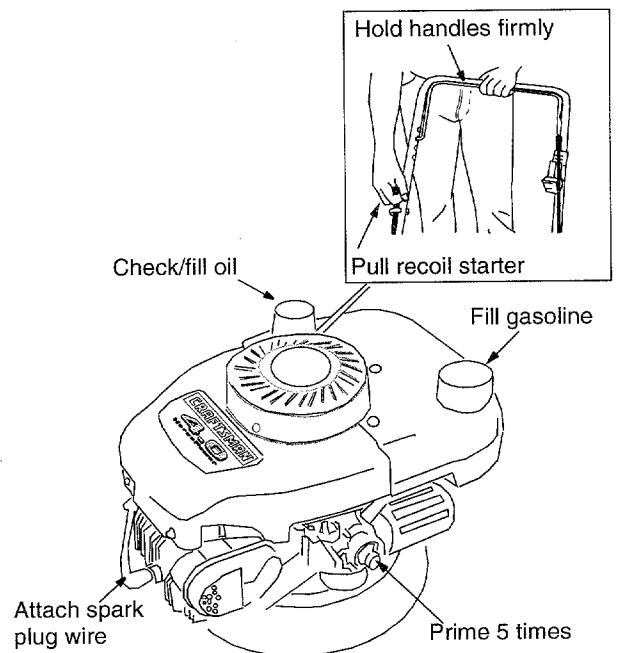

Figure 9
(Refer to Figure 9.)
- Hold blade control handle against the upper handle. Grasp recoil starter and pull rope out slowly until engine reaches the start of compression cycle (rope will pull slightly harder at this point). See Figure 9 inset. Let the rope rewind slowly.